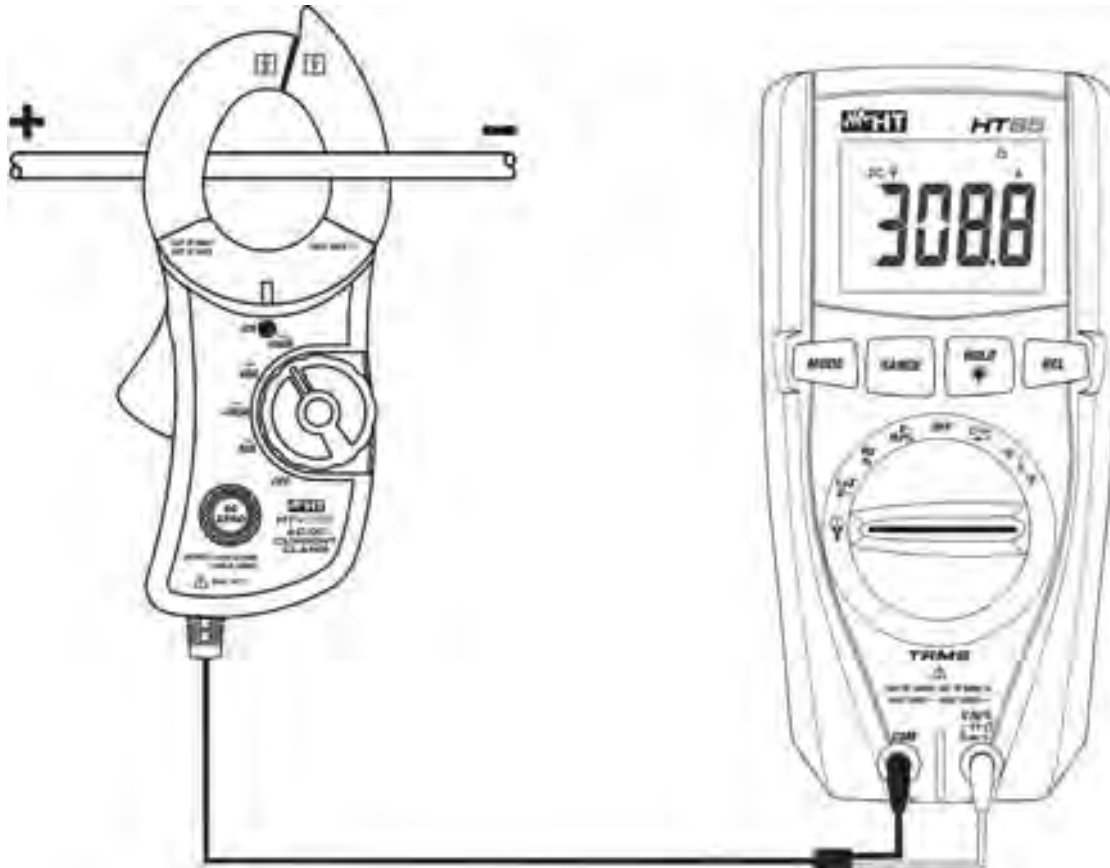

Fig. 10: Use of the instrument for DC current measurement with transducer clamps
5. Insert the cable inside the jaw (see Fig. 10). The value of current appears on the display
7. When symbol “-” appears on the instrument’s display, it means that current has the opposite direction with respect to the connection in Fig. 10